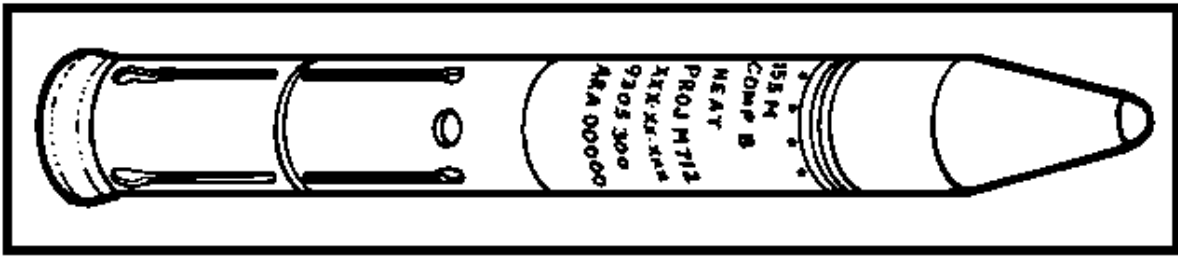

Figure 20. M712 projectile.
(12) Projectile, 155-mm, HEAT, M712. This projectile is a cannon-launched guided projectile (CLGP). It is a HEAT projectile loaded with 14.75 pounds (6.69 kilograms [kg]) of composition B. It is guided to its target by a laser beam directed on the target from a laser designator. The projectile has five time and code switches set by the crew before firing. The warhead section of the projectile contains its own base-detonating fuze (M740). The projectile is 54 inches (137.16 centimeters [cm]) long and weighs 138 pounds (62.60 kg) (Figure 20).